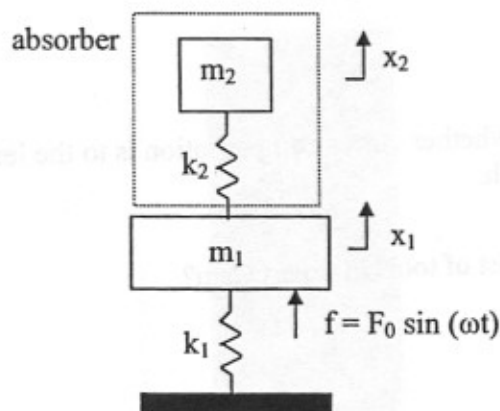

Figure V3 Mechanical system with an absorber.
- (8) 6. To cancel the vibration in a mechanical system being operated at its natural frequency, an absorber can be added. This situation is shown schematically in Figure V3. An ideal absorber would have the same natural frequency as the main system. If the main mass is 11 kg and the main spring has a stiffness of 23 000 N/m: